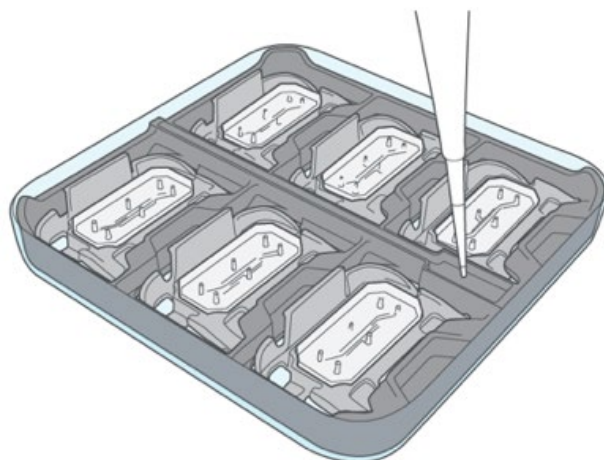

Figure 6. Fill the central reservoir of the Chip Cradle with 0.75 mL of DPBS
7. To prevent evaporation during incubation, fill the central reservoir with 0.75 mL of DPBS (See Figure 6), place the lid onto the 120-mm square dish, and incubate it overnight at 37°C and 5% CO₂.